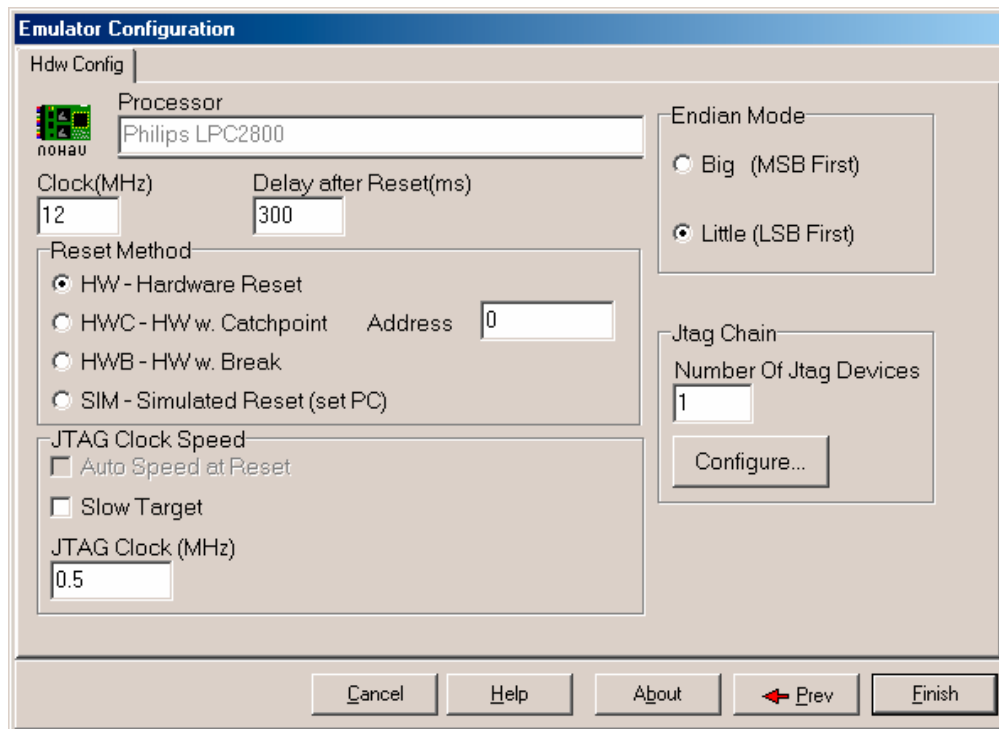

Figure 2-18: Emulator Configuration Window Displaying the Hdw Config Tab
- In SeeHau, open the Emulator Configuration window. From the **Config** menu select **Emulator**. The Emulator Configuration window opens displaying the **Hdw Config** tab (Figure 2-18).